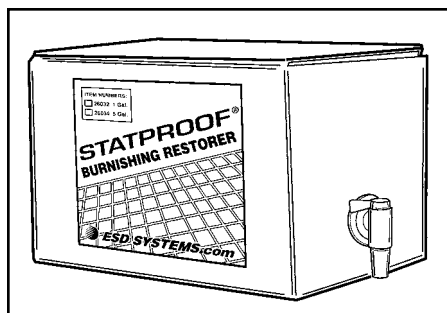

Figure 8. Statproof® Burnishing Restorer, Item No. 26036, ready-to-use 2.5 gallon bag-in-box.
1. Pour Statguard® Floor Finish into a clean mop bucket and apply with a clean rayon (or cotton blend) mop using a figure 8 motion.